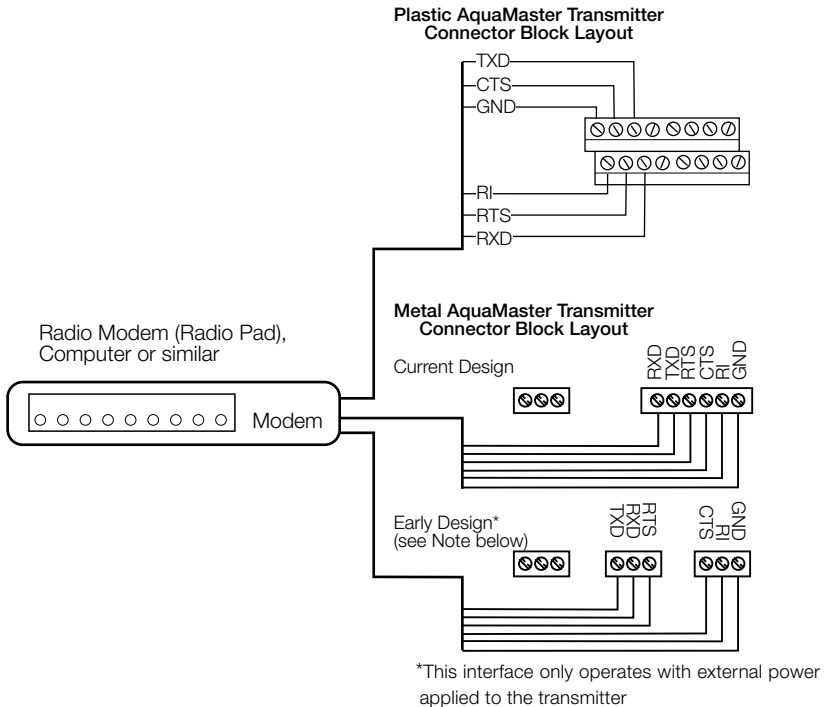

Fig. 3.17 RS232 Connections
3.3.7 Remote Computer Connection – Fig. 3.17